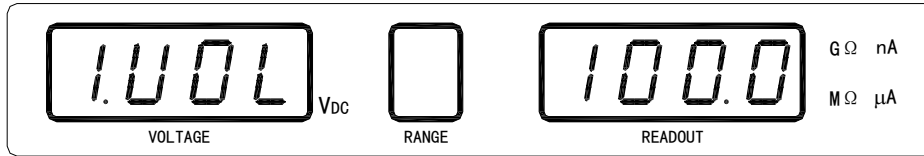

Figure 3-5 Main Setup Menu
- 1) Press **SET/ENTER** key in the discharge status to enter the main setup menu as shown in the following figure 3-5.